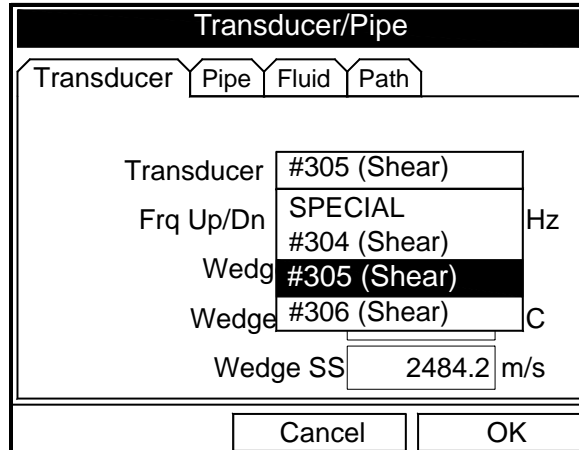

Figure 3-6: Transducer Type Options
2. A drop-down list of transducer numbers opens (see Figure 3-6 below). Press the [▼] or [▲] keys to scroll to the appropriate number, or scroll to “Special” for a special application transducer.